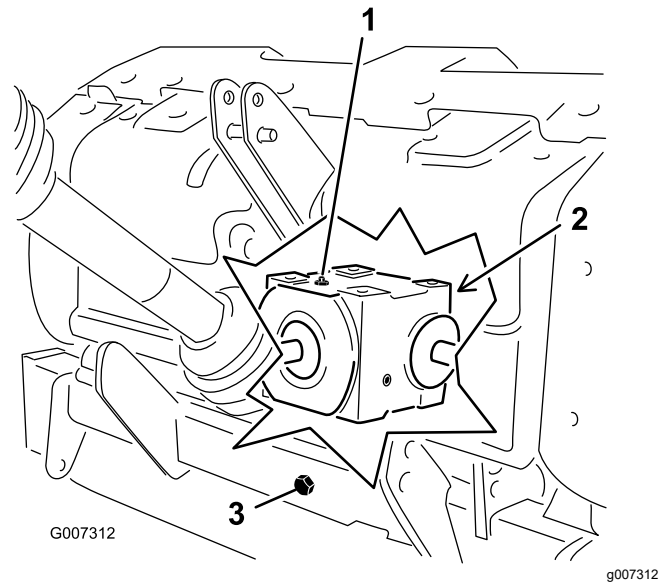

Figure 30
2. Remove the check plug from the gearbox (Figure 30).
3. Make sure that the oil level is up to the bottom of the check plug hole in gearbox (Figure 30).
1. Clean debris from the fill plug and the drain cap to avoid contamination (Figure 30).